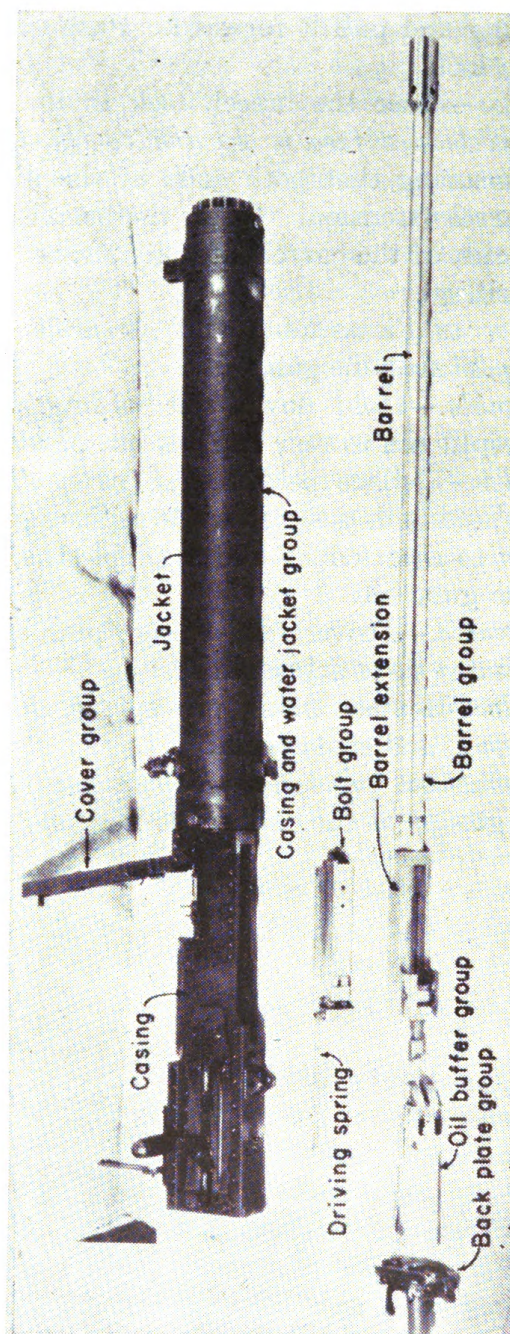

FIGURE 37.—Part groups of caliber .50 machine gun M2.
c. Caliber .50 machine gun.—(1) *Nomenclature and action.*—*Q.* Identify the part groups of the caliber .50 machine gun M2. *A.* See figure 37.